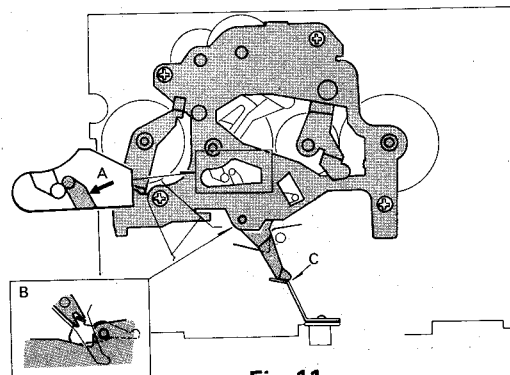

Fig. 11
- 4) Then fix the bottom plate with the four screws. (See Figure 11.)